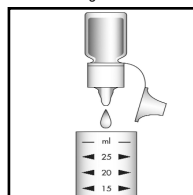

Figure 2
2. Add A-9900 Indicator Solution (fig 2) to the cup. Stir to mix the contents of the cup.